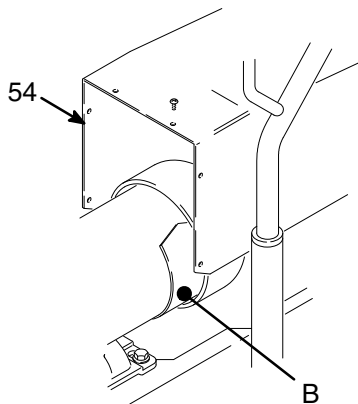

Fig. 11 7714A
2. Remove motor shield (54). Remove inspection covers (B) and gaskets on each side of motor. See Fig. 11.